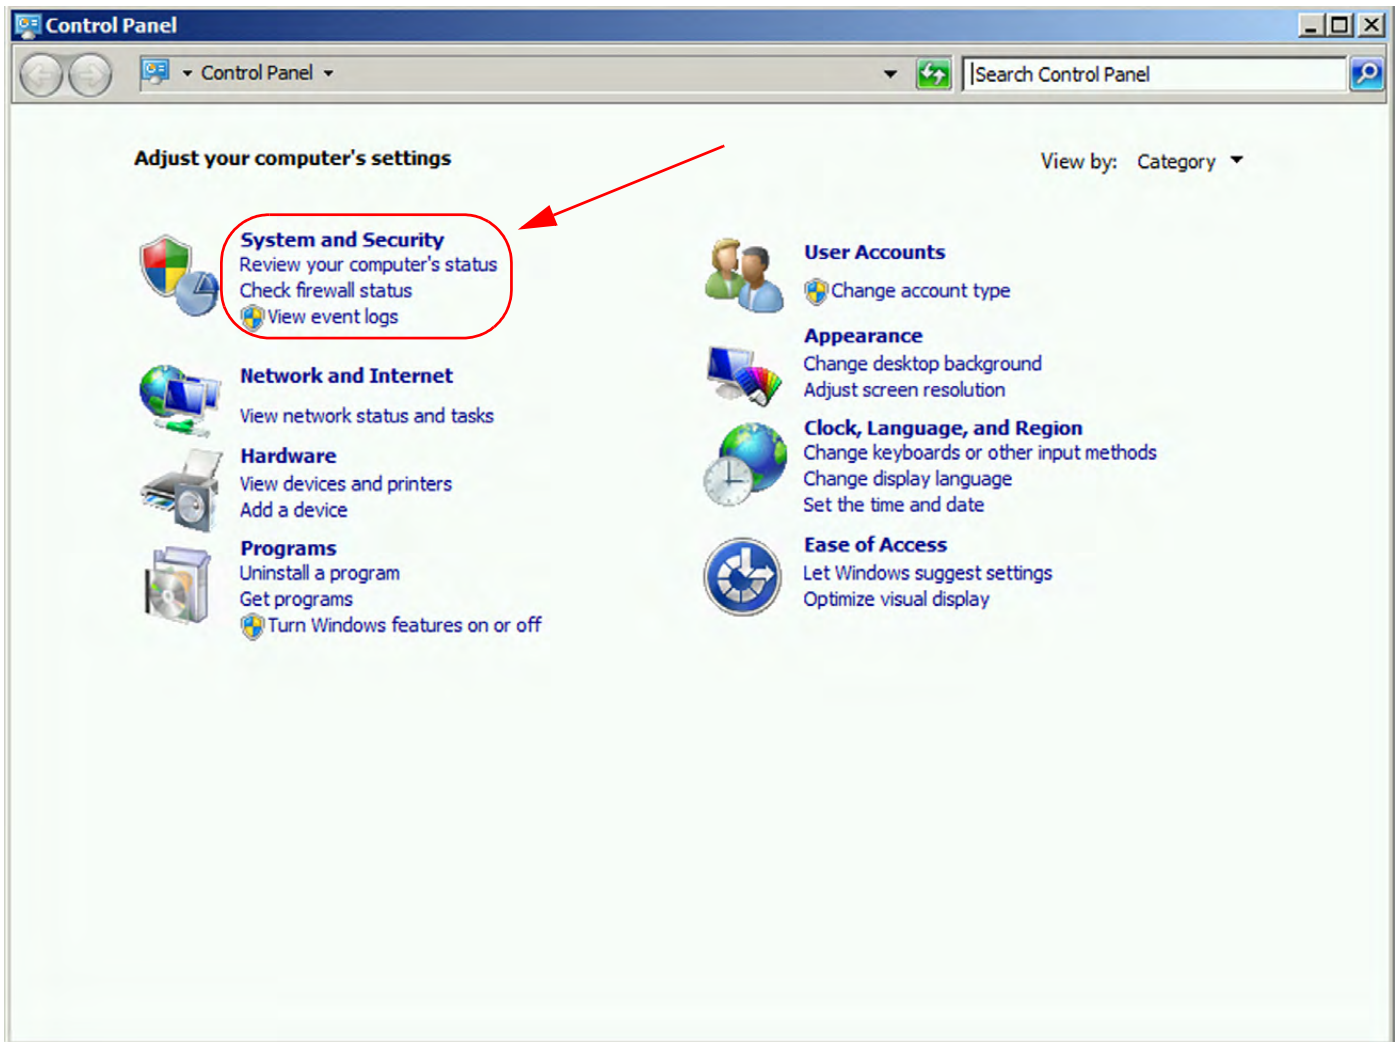

Figure 3.11: Windows Server 2008: System and Security Screen
2. From the Control Panel, select the “System and Security” Screen. See Figure 3.11.